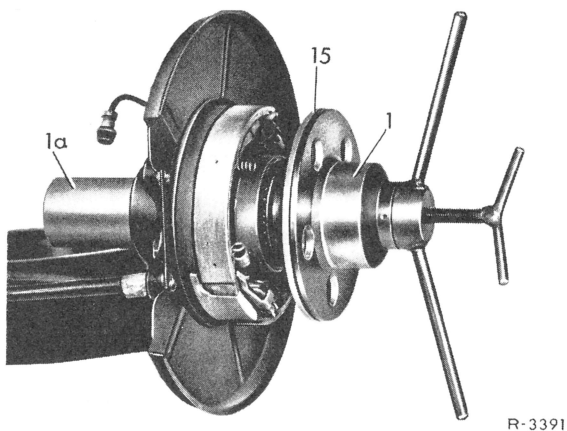

Fig. 17
**18** Attach bearing inner race for inner tapered roller bearing to rear axle shaft flange. Fill new sealing ring between the two sealing lips with anti-friction bearing grease and coat with sealing compound on outside diameter. Press bearing inner race and sealing ring together on or in with assembly fixture (Fig. 17).